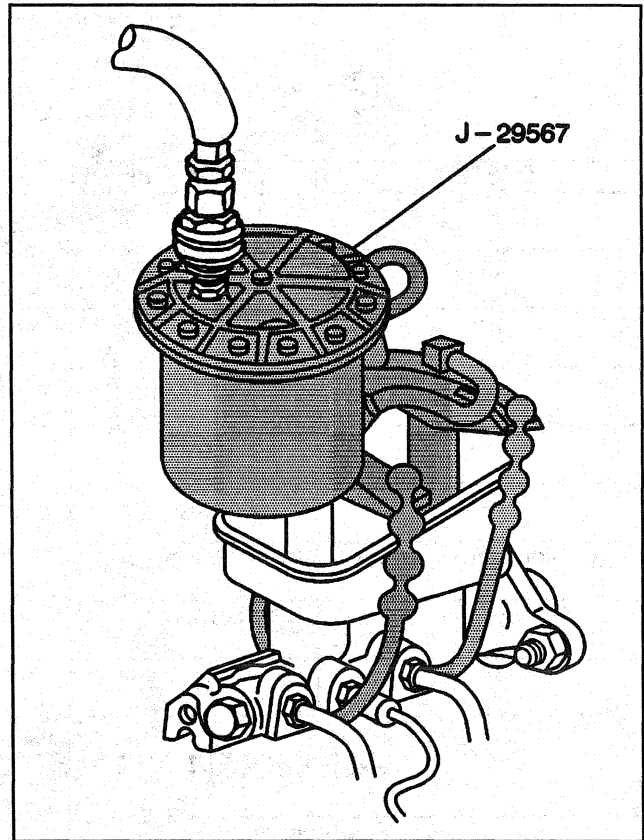

Figure 7—Reservoir Bleeder Adapter
3. Install the bleeder adapter (Figure 7).